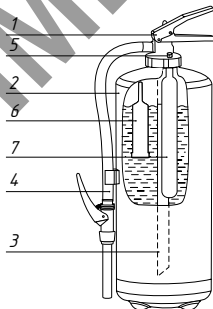

Figure 1
4.1. Fire extinguisher design is shown in the Figure 1. The Fire extinguisher consists of a body 2 with LRD 1 screwed in its neck (M74x2 thread) with a safety valve and a siphon tube 3. A sprayer with the crossover 4 is connected to the outlet of the LRD.